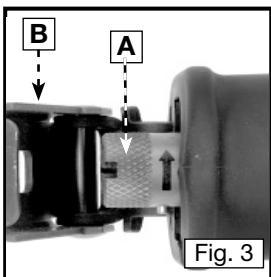
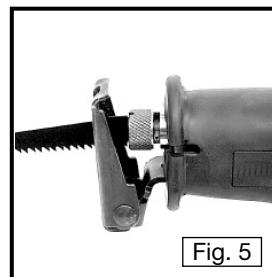

Fig. 3
Fig. 5
1. Fully extend the reciprocating shaft to permit access to the Quik-Change™ blade release collar (A) Fig. 3. If necessary, gently squeeze the trigger switch to move the reciprocating shaft to its outermost position (Fig. 5).
2. Move the guide shoe (B) Fig. 3 forward to access the blade clamp.
4. Insert the blade into the clamp until it bottoms. Allow the release collar to rotate clockwise to lock the blade in place (see Fig. 5).